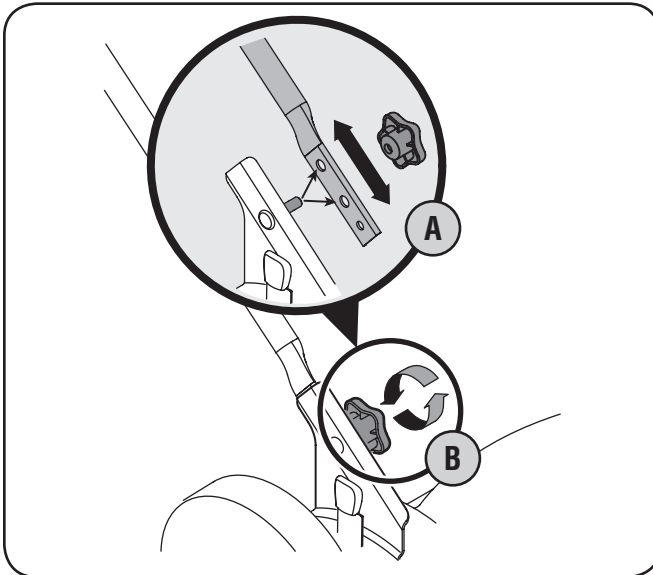

Figure 3-3
2. If satisfied with height of handle, tighten wing nuts at the ends of the lower handle shown in Fig. 3-3. For convenience of operating, you may adjust the handle height by removing the wing nuts and removing the lower handle.
- a. Position each handle bracket stud into the top hole in the lower handle. See Fig. 3-3 inset.